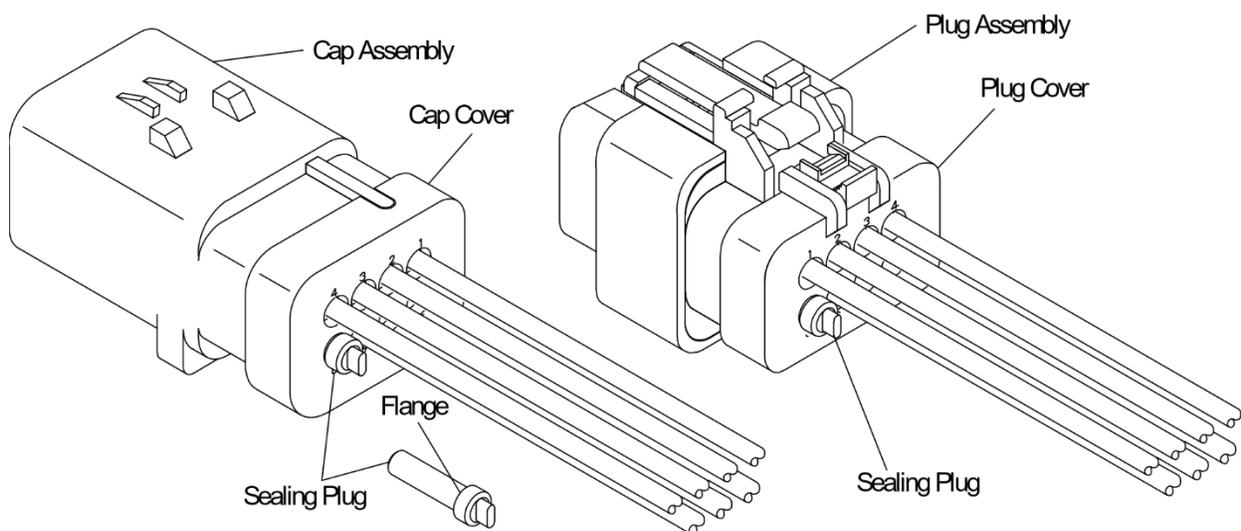

Figure 8
5. Place a sealing plug, (part number 776363-1 for SDWS and RDWS), into any circuits not loaded with contacts. The sealing plug should be pushed into the wire entry end of the plug or cap cover until the flange on the sealing plug is firmly against the seal cover. See Figure 8.